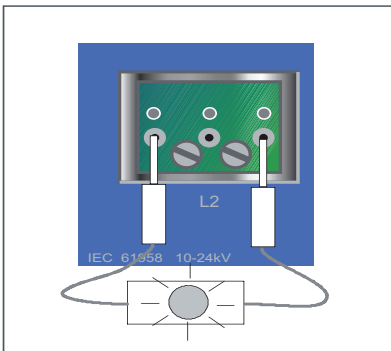

Fig. 9.7
- Check the device before each operation. Connect the two plugs of the phase comparator to the two connection points of a VPIS device (Fig. 9.7). The lamp must light up: The phase comparator is working properly.